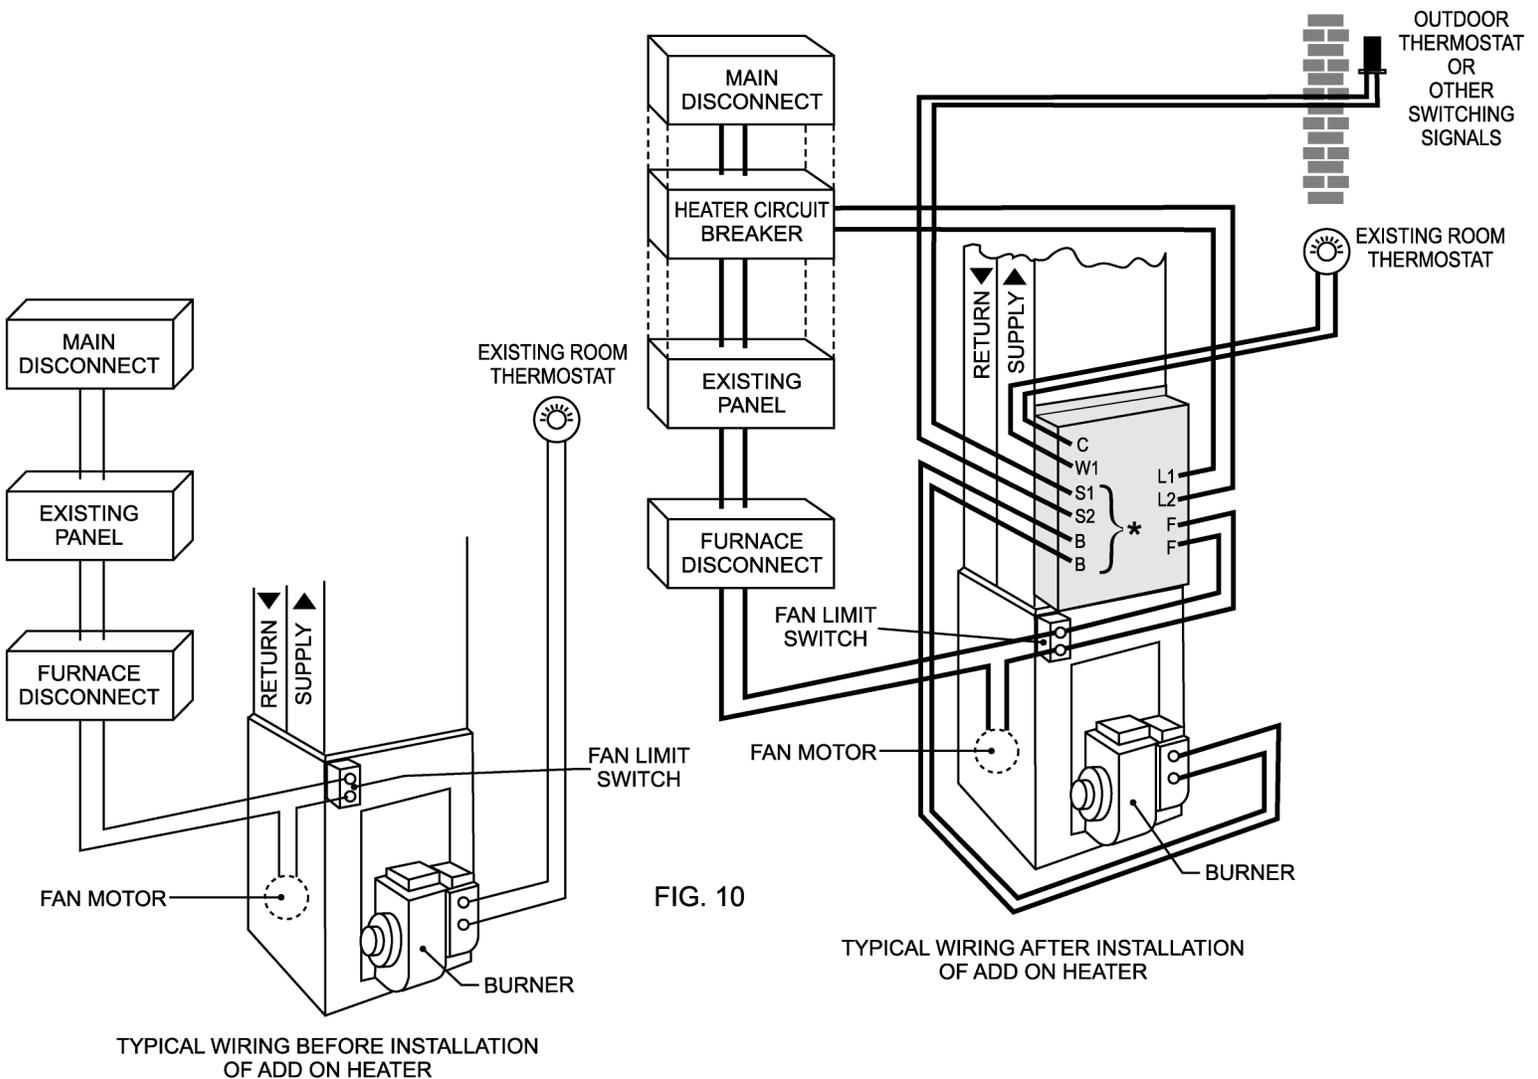

FIG. 10
- F. Connect two (2) wires from BB control terminals of plenum heater to furnace room thermostat connection.
- H. **Anticipation.** Set the room thermostat heat anticipator at 0.2. Perform start-up and required field tests. (Please see fig. 10) or schematic wiring.